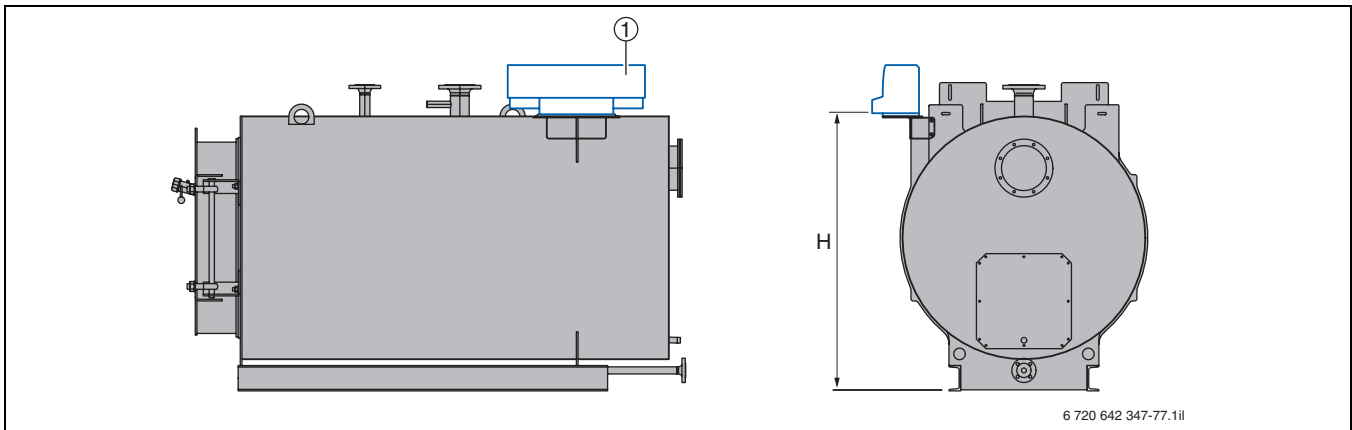
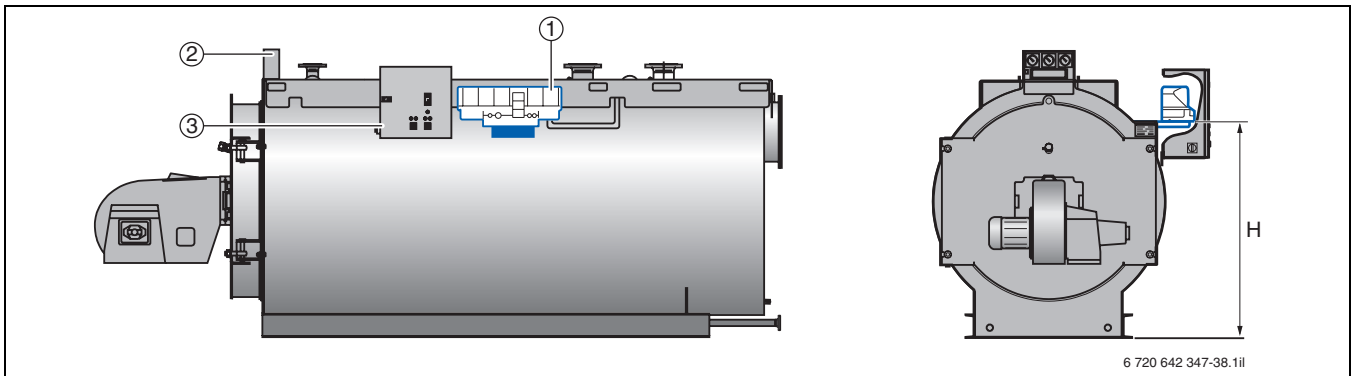

Fig. 43 Side control unit retainer Logano S825L/L LN (standardised)
Fig. 44 Side control unit retainer Logano S825L/L LN and Logano plus SB825L/L LN
of the boiler block. Mount the control unit on an adaptor plate on the side control unit retainer (→ Fig. 43 and Fig. 44).
2) Bottom edge of control unit (H → Fig. 43, page 66)
1) Bottom edge of control unit (H → Fig. 44, page 66)
If the boiler has been equipped with a burner control panel by the burner supplier, a mounting plate can be fitted to the boiler at the factory. It is fitted on either the r.h. or l.h. side of the boiler or on the front door (→ Fig. 44, page 66).